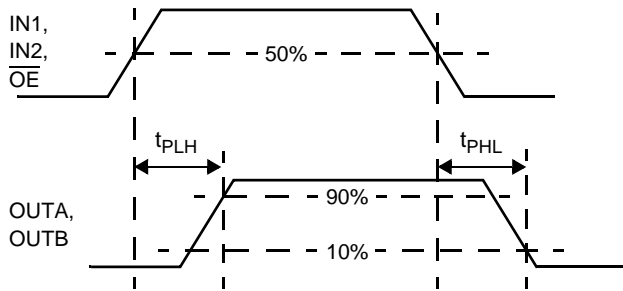

Figure 4. t_{PLH} , t_{PHL} , and t_{PZH} Timing
- 16. Load of Output is 8.0 Ω resistance. see Figure 4